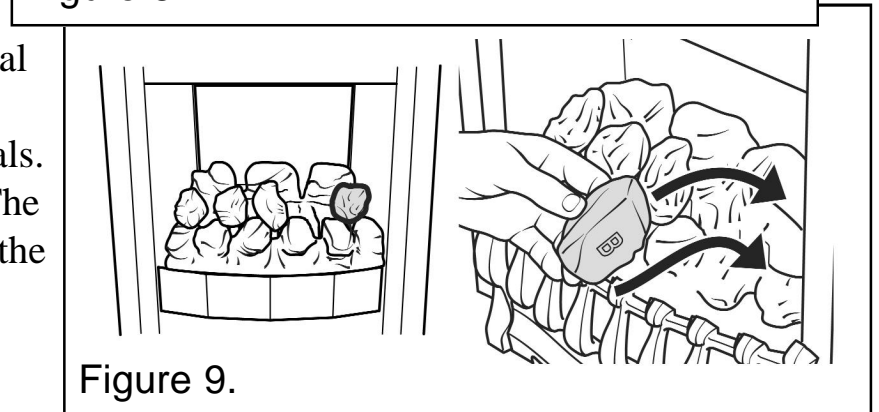

Figure 9.
6. Place the remaining type “B” coal at the right side of the firebox between the front and rear base coals. The letter “B” should be upright. The coal should touch the right side of the firebox. See figure 9.